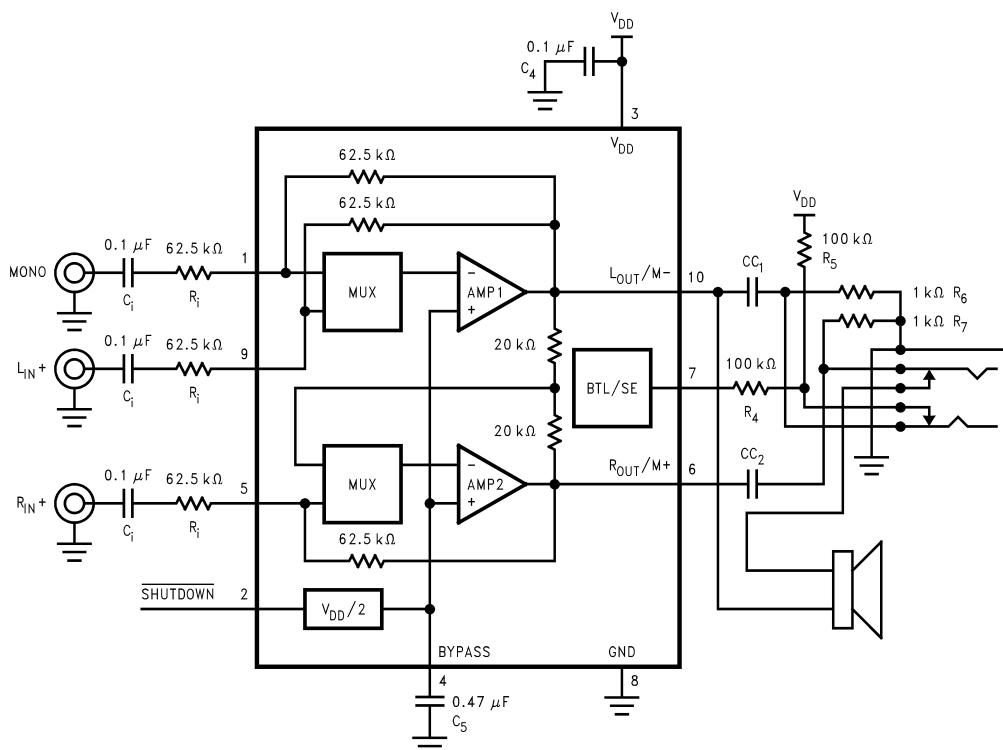

Figure 3. Typical Audio Amplifier Application Circuit
As shown in Figure 3, the LM4913 consists of two input multiplexers (MUX) and two power amplifiers designed to drive loads that have a minimum impedance of 4 ohms. In mono BTL mode, AMP1 and AMP2 drive a speaker connected between their outputs. In stereo SE mode, AMP1 and AMP2 each drive a SE load such as stereo headphones.
Amplifying the lowest audio frequencies requires high value input coupling capacitor (C_i in Figure 3). A high value capacitor can be expensive and may compromise space efficiency in portable designs. In many cases, however, the speakers used in portable systems, whether internal or external, have little ability to reproduce signals below 150Hz. Applications using speakers with this limited frequency response reap little improvement by using large input capacitor.
As shown in Figure 3, the input resistor (R_i) and the input capacitor (C_i) produce a high pass filter cutoff frequency that is found using Equation (7).
As an example when using a speaker with a low frequency limit of 150Hz, C_i , using Equation (7) is 0.063μF. The 1.0μF C_i shown in Figure 3 allows the LM4913 to drive high efficiency, full range speaker whose response extends below 30Hz.